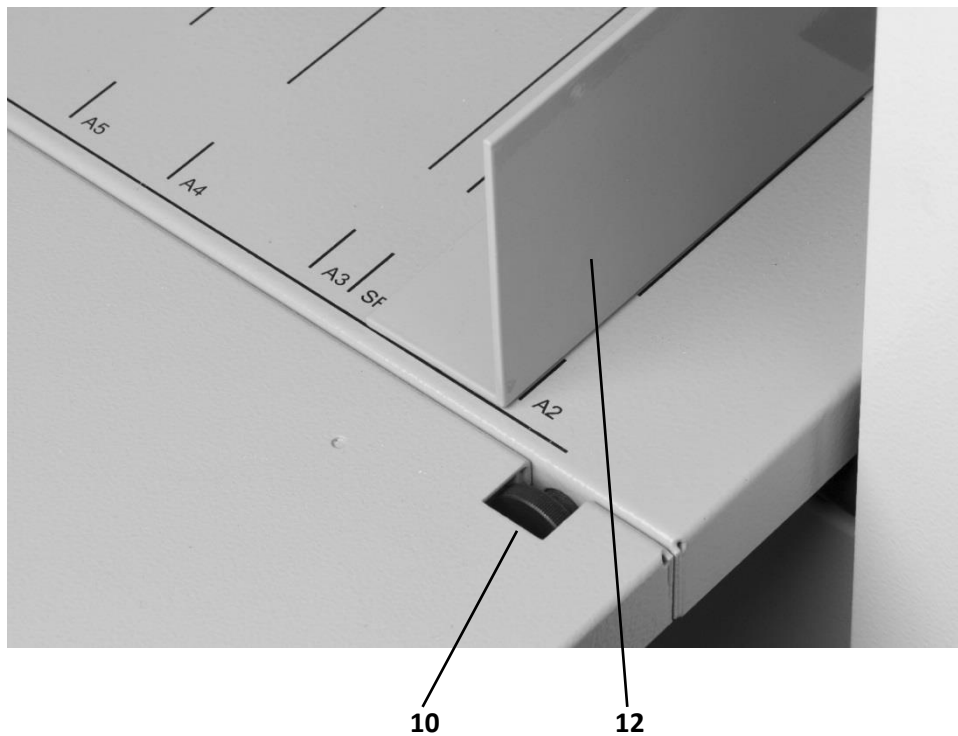

Fig. 7: Setting the Side Guides
Use the side guides turning screw (10) to set the side guides (12) perpendicularly with the tool. The side guides are set in the initial position (perpendicular to the tool) if the rear edge of the right side guide aligns with the feeding table line (fig. 7).
Note: It is recommended to set the side guide perpendicularity in the position as shown in Fig. 7. Besides the line parallel to the tools, the A2 position line may also be of assistance when identifying the correct side guide position (the A2 position line must be parallel to the side guide).